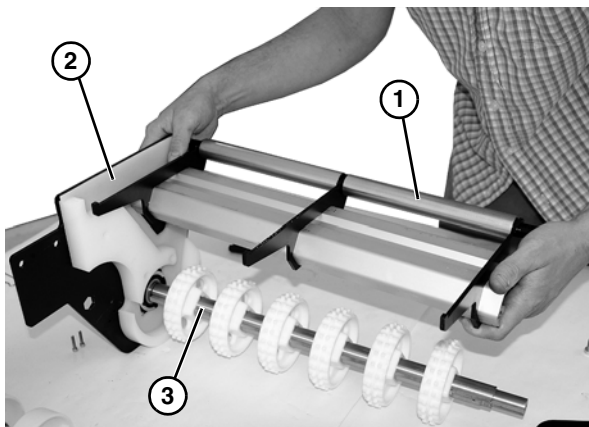

Figure 54
13. Remove crossmember (**Figure 54, item 1**) from opposite terminal assembly (**Figure 54, item 2**).
14. Remove drive spindle (**Figure 54, item 3**) from terminal assembly (**Figure 54, item 2**).